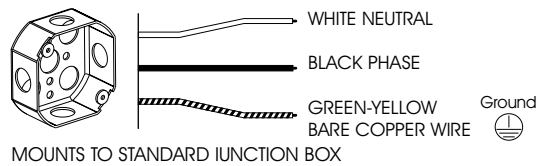

FIG.1
1. Loose screw "A" from fixture body "B" and remove cover "C" FIG.1